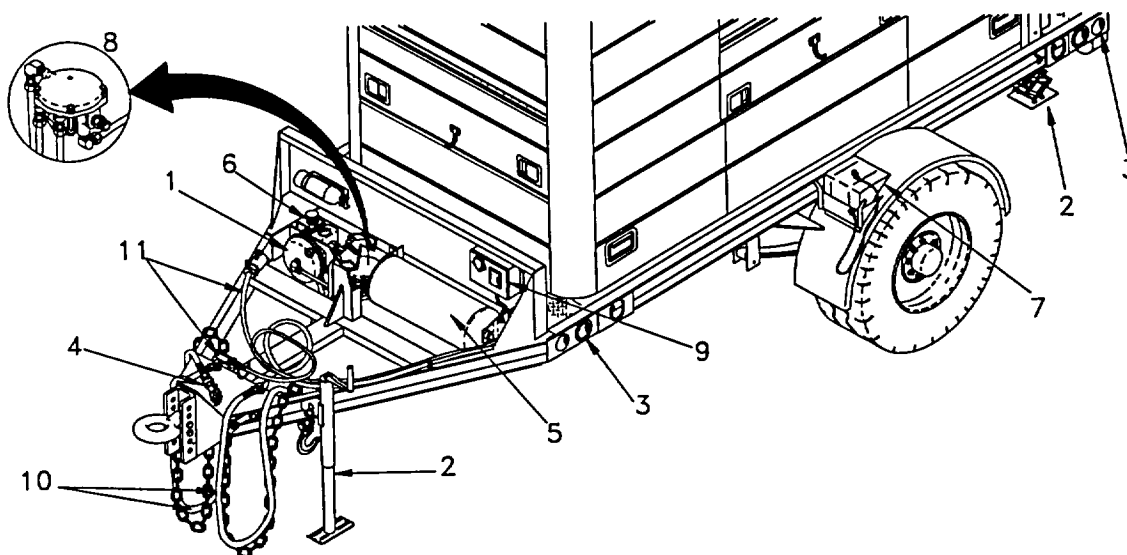

Figure 2-13. Trailer Assembly
m. Trailer Assembly. (Refer to Figure 2-13).
- (1) Power Cluster and Master Cylinder (1). Converts air pressure into hydraulic pressure by use of an air cylinder and a master brake cylinder.
- (2) Front & Rear Jacks (2). Stabilize the trailer and lube unit.
- (3) Reflectors (3). Safety devices that allow other vehicles to see the lube unit.
- (4) Emergency and Service Brake Couplers (4). Connects the braking system of the trailer to that of the towing vehicle.
- (5) Trailer Air Tank (5). Stores air for use with the trailer air brake system.
- (6) Parking Brake (6). Activates brakes for the parking unit. Use with wheel chocks (7).
- (7) Emergency Relay Valve (8). Receives air from the emergency and service brake couplers and sends it to the trailer air tank. This is used to apply the emergency brakes if a sudden pressure drop is sensed such as if the trailer broke away from the towing vehicle.
- (8) Junction Box (9). Connects towing vehicle wiring and power to trailer.
- (9) Brake Hose Assemblies (10). Connects trailer air brake system to towing vehicle.
- (10) 12 VDC and 24 VDC Intervehicle Electrical Cable Assemblies (11) Provides electrical power from towing vehicle to trailer junction box.